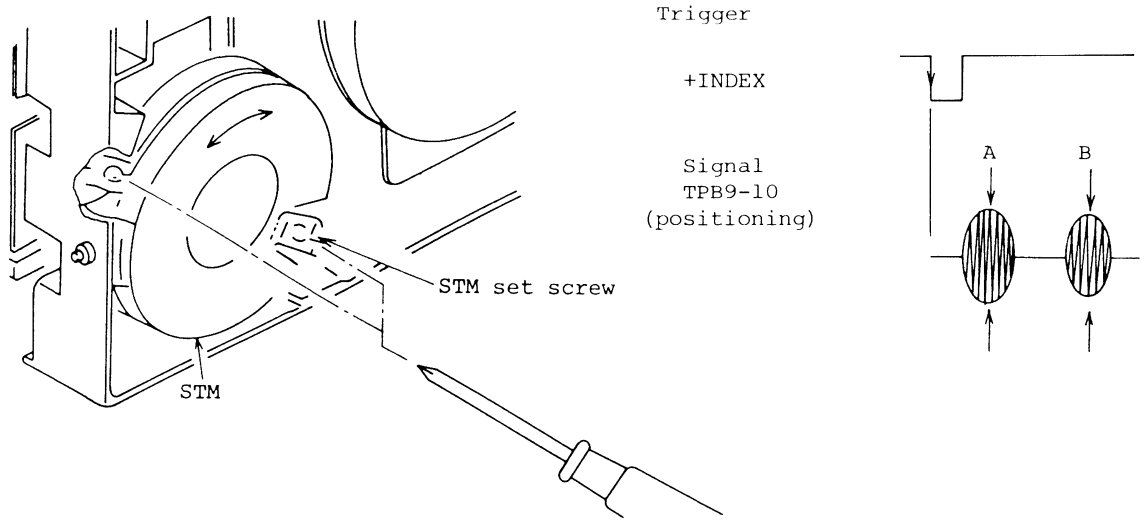

FIGURE 7
2)-4 Seek TK00 to TK32 then read amplitude of each waveform (positioning waveform) at TPB9, TPB10 under read mode (see Figure 7).